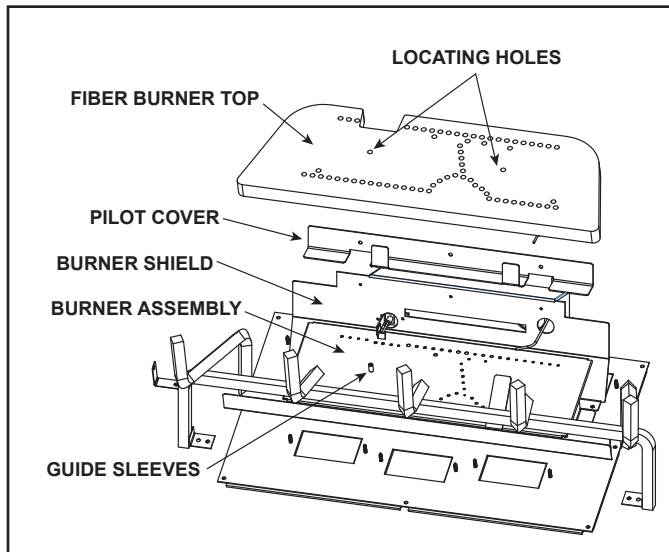

Figure 6.5. Place Fiber Burner Top on Pins
1. Locate the guide sleeves on the burner assembly. See Figure 6.5. Position the fiber burner top on the pins and carefully push burner top into place.